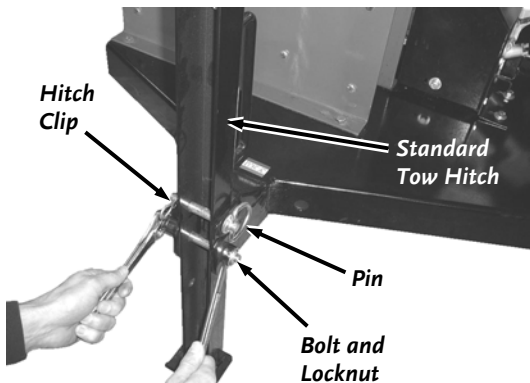

Figure 52
2. Remove the Bolt and Locknut from the Frame and Standard Tow Hitch with two 3/4" wrenches (**Figure 52**).